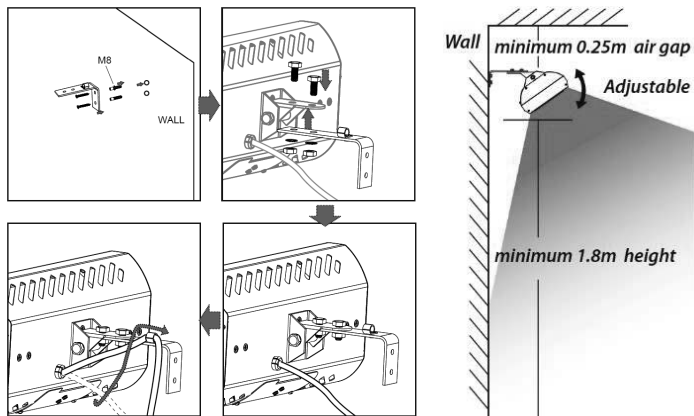

Fig. 1
Note – This product is designed for wall installation only, horizontally at a minimum height of 1.8m and it must have a minimum of 0.25m air gap from the ceiling and away from the walls and other structures (see Fig. 1)
- Using the bracket as a template, mark the location for, and drill the fixing holes ensuring not to infringe with any gas/water pipes or electrical cables. Fix the bracket to the wall using the screws provided (see Fig.1)
- Fix the body of the heater to the bracket and insert the cable into the cable clip (see Fig.1)